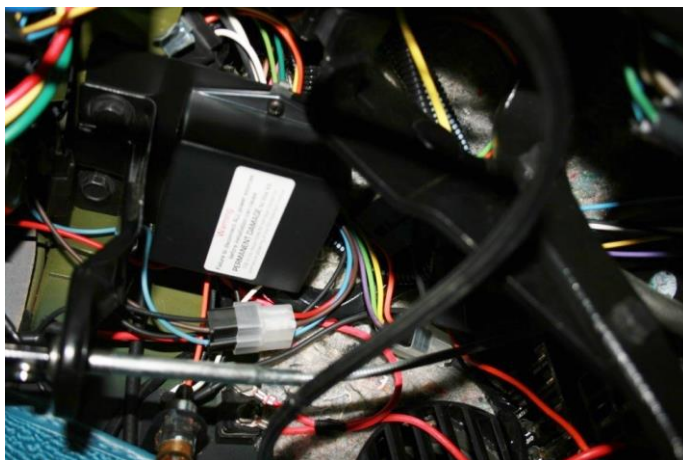

Figure 16 – Mount Control Module
29. Install the headlight door control module mounting bracket under the hood release cable bracket and reinstall the bolts (Figure 16). If the hood release cable is not mounted through these holes, use the included 5/16"-18 x 3/4" L Flange Head Hex Cap Screws to mount the module in the position.